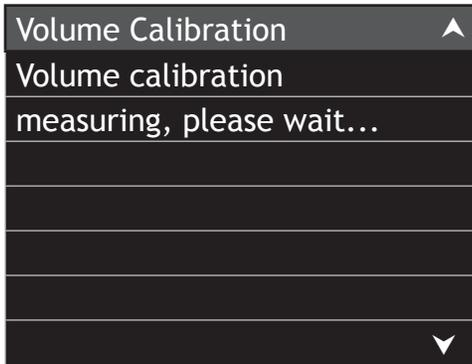
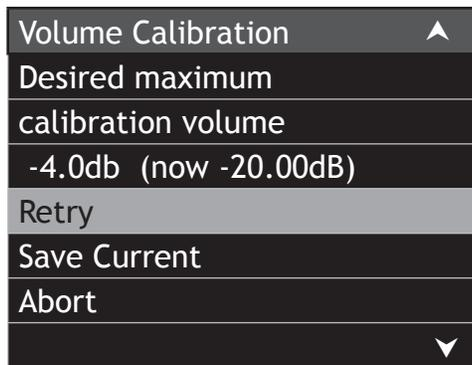
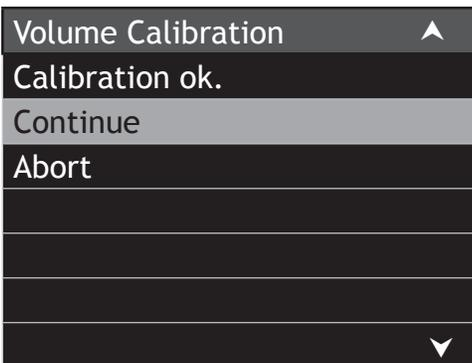
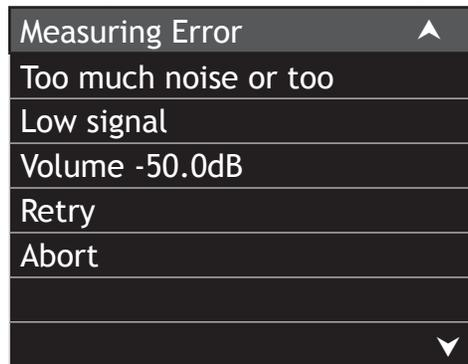

Figure 27
Figure 28
Figure 29
Figure 30
- Press the SELECT Push-button and the “Volume Calibration measuring” will appear. Refer to figure 27. The MX151 will send out to each of the loudspeakers, one at a time, a test tone to obtain a measurement level making sure it is above the background noise level in your room. Several minutes after testing, figure 28 (on page 26) will appear on-screen. Select “Save Current” and press the SELECT Push-button. When figure 29 (on page 26) appears On-Screen, select continue and press the SELECT Push-button.
Note: The Desired maximum calibration volume (-4.0db) level and the current (now -20.00dB) volume indications in figure 28 will probably be different in your room. The size of your room, loudspeaker distance from the microphone position and the efficiency of the loudspeakers all effect the readings. If the test signal was too loud, reduce it by using the Volume Control by 10dB (the example in figure 28 would now read -30.00dB). Select "Retry" then "Save Current". If for some reason the volume level needs to be higher, a "Measuring Error" will appear on the screen refer to figure 30.